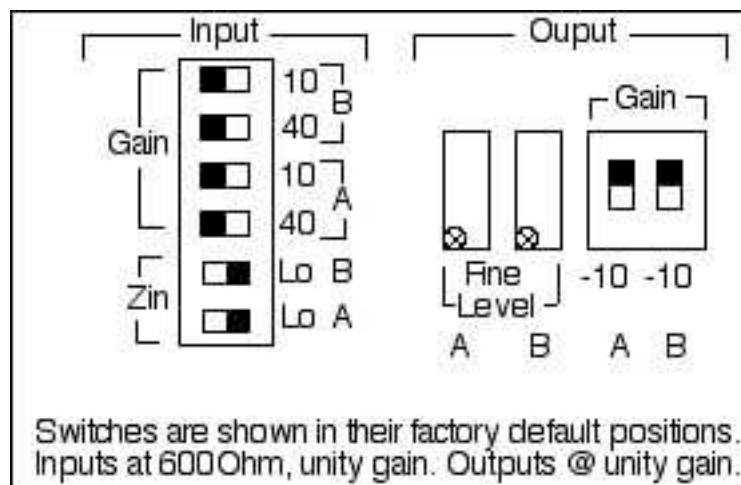

Figure 5: 4-Wire setup switches
4. With the rear of the unit facing you (connector end), move the slide switches shown in Figures 5 and 6 to match the settings in Table 2. The controls are arranged in pairs.
In Figure 5, A refers to the first numbered channel and B refers to the second numbered channel of the pair.